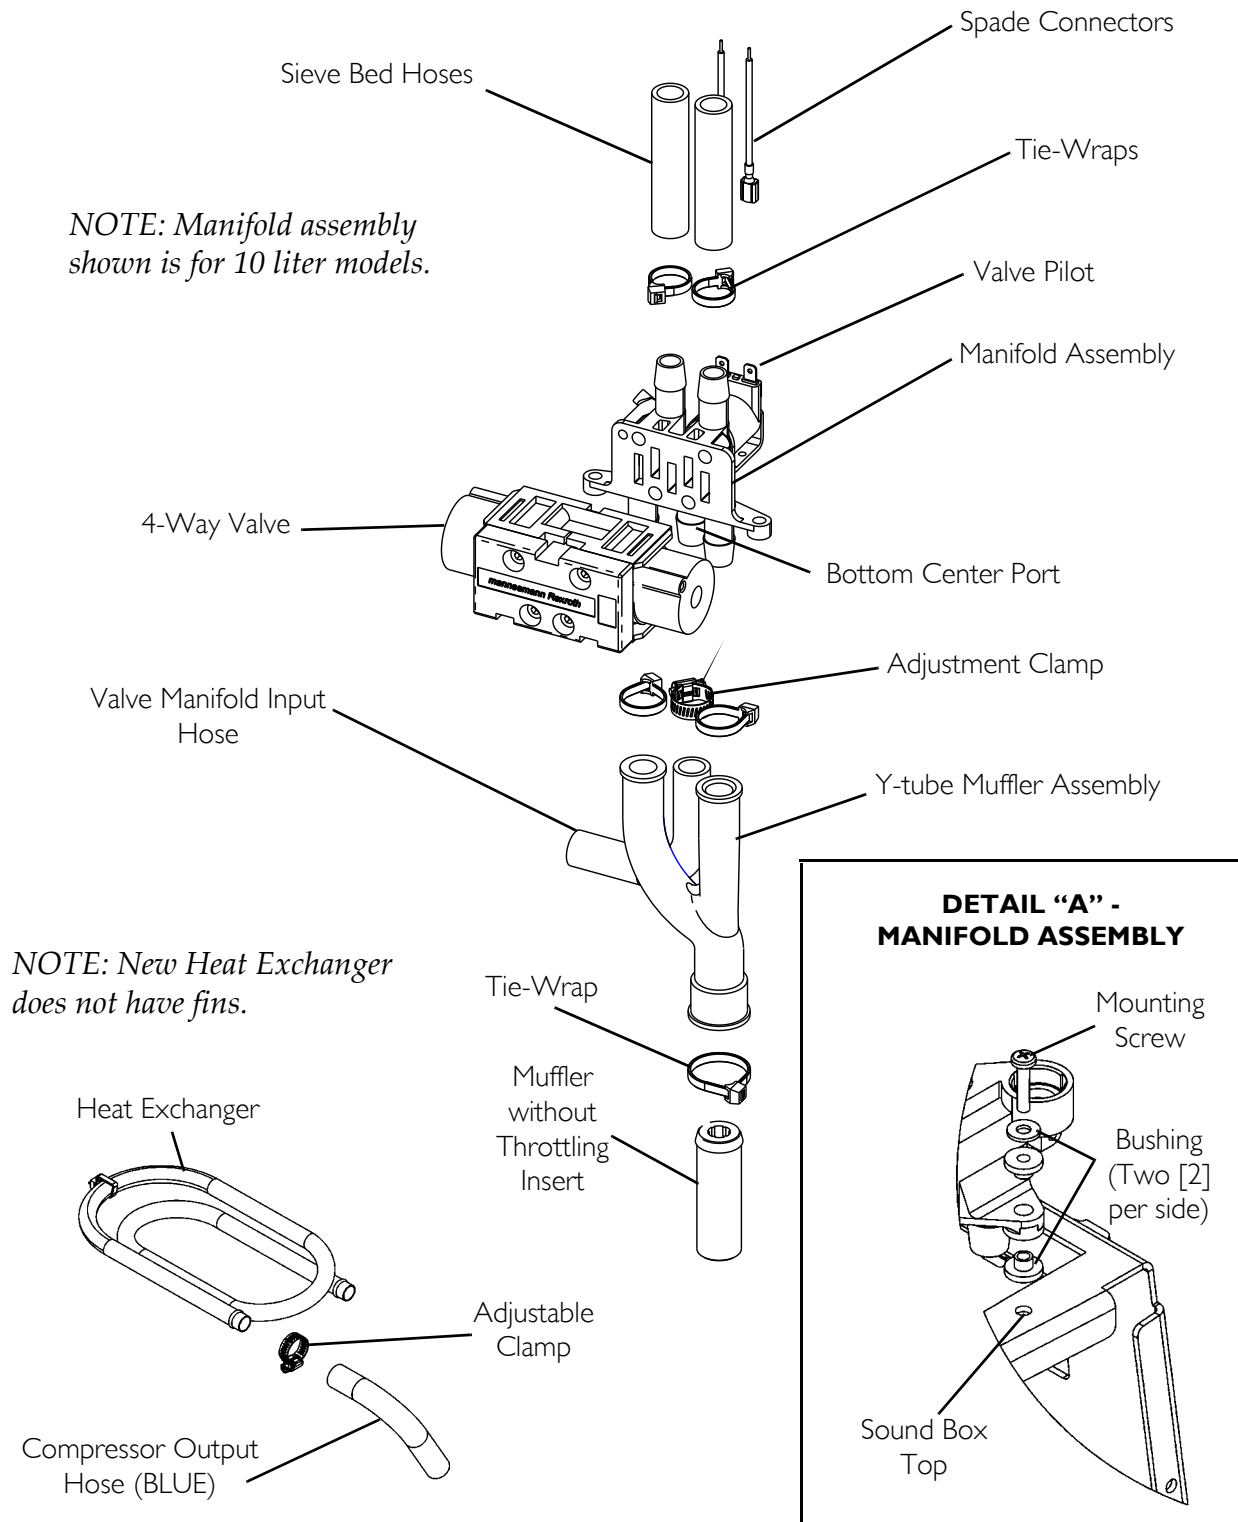
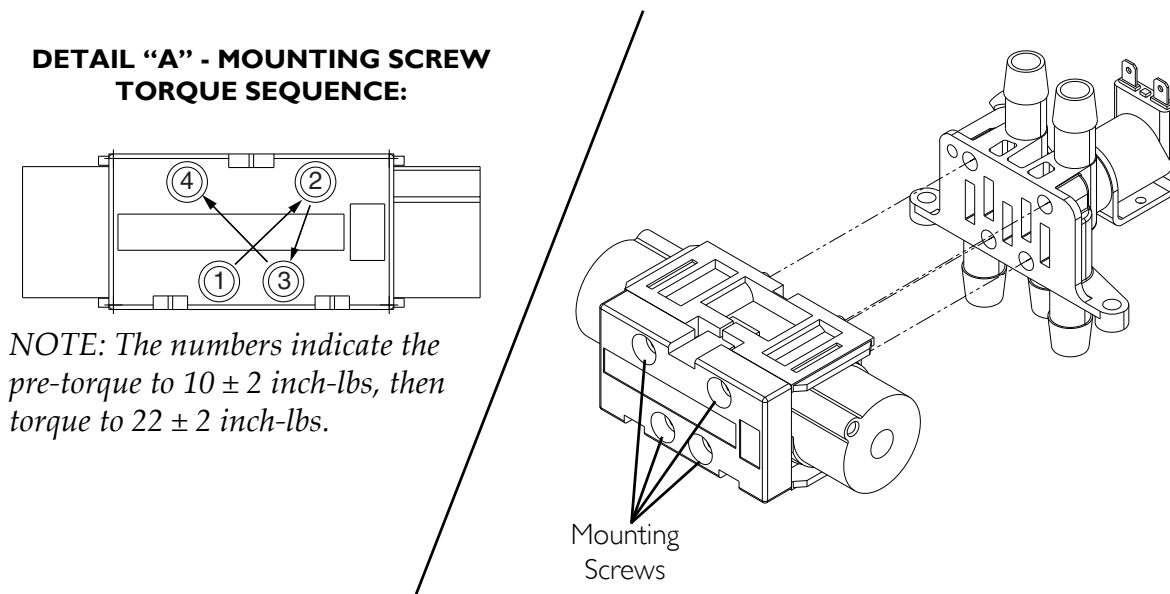

FIGURE 20.3 Replacing Manifold Assembly (Units Manufactured after 7/24/03)
FIGURE 20.4 Replacing Manifold Assembly (Units Manufactured after 7/24/03)
NOTE: For this procedure, refer to FIGURE 20.3 on page 79 and FIGURE 20.4 on page 81.
NOTE: Platinum XL and 10 Units manufactured after 7/24/03 are equipped with Y-tube muffler assembly as shown in FIGURE 20.3. This procedure applies to Platinum 5 units manufactured after 7/24/03.
9. Remove the two mounting screws, washers (one per side) and bushings (two per side) securing the 4-way valve/manifold assembly to top of sound box (Detail “A” of FIGURE 20.3).
- D. Pre-torque the mounting screws to 10 ± 2 inch-lbs using the torque sequence (FIGURE 20.4).